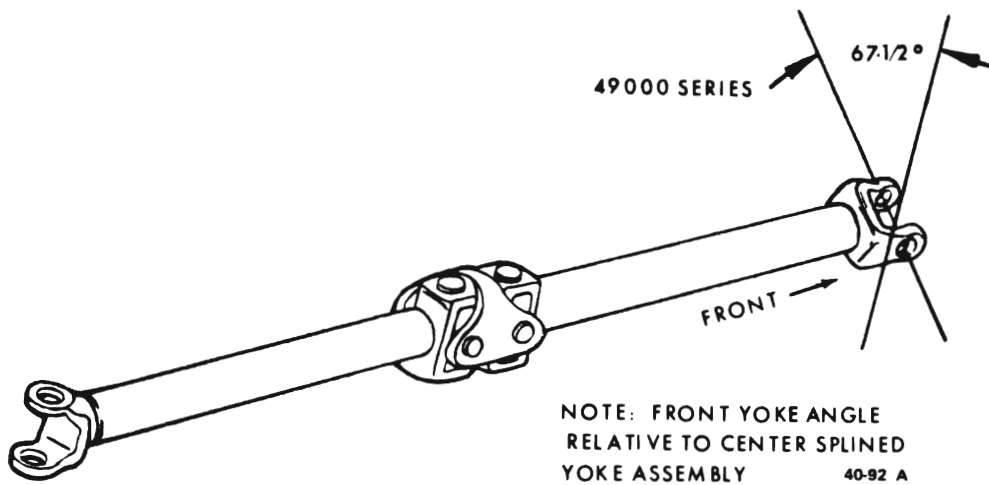

Figure 40-79 - Propeller Shaft Phasing
2. Align the index spring with the missing internal spline in the rear end of the front propeller shaft and slide the slip joint together. See Figure 40-79 for proper phasing of the propeller shaft.